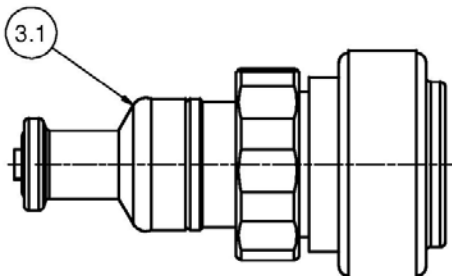

Figure 5 – Valve insert with diaphragm (3.1)
- Loosen the diaphragm (3.1) from the holder and invert it completely (see figure 5 and 6).